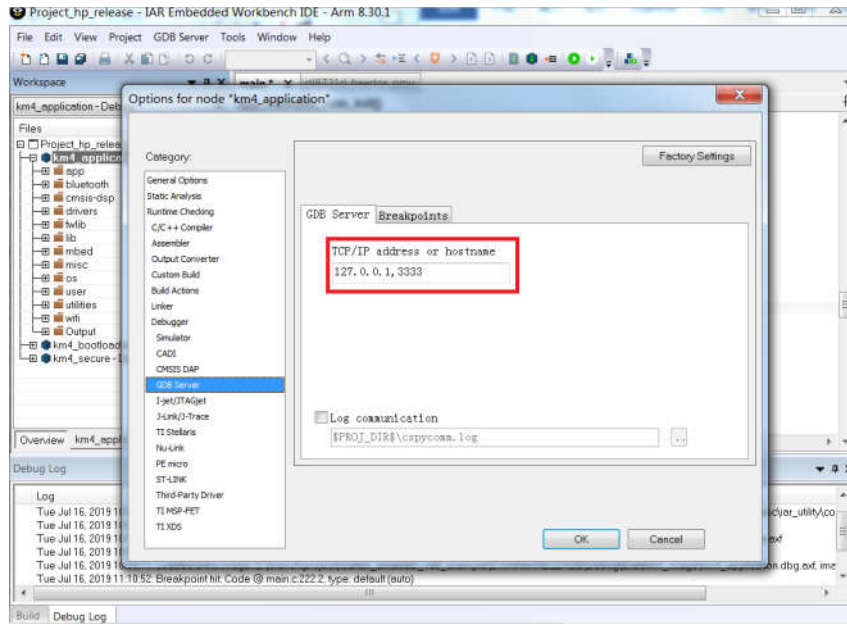

Fig 1-16 RLX Probe interface setup
- b) Click **GDB Server > GDB Server**, and put correct value in “TCP/IP address or hostname”, as Fig 1-16 shows. The value should be: *localhost, port number*.